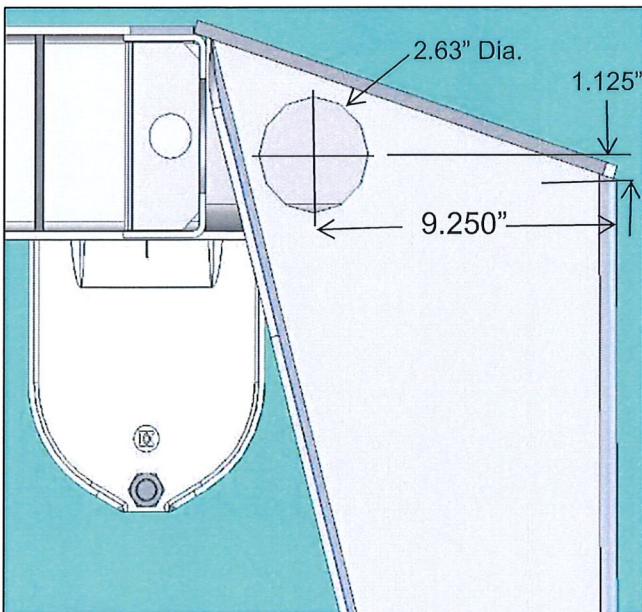

Figure 11
Step 10: Measure and mark center of 2.63"-dia. hole on Inboard Side of the Counterbalance Leg (Fig 11)